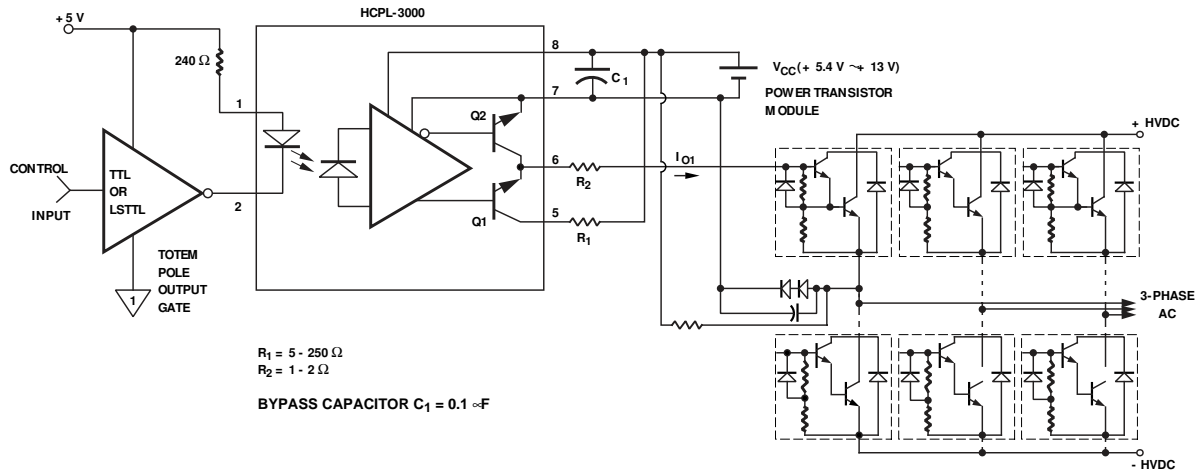

Figure 1. Recommended output transistor protection and typical application circuit.
THE USE OF A 0.1∞F BYPASS CAPACITOR CONNECTED BETWEEN PINS 8 AND 7 IS RECOMMENDED. ALSO, CURRENT LIMITING RESISTORS ARE RECOMMENDED (SEE FIGURE 1, NOTE 2, AND NOTE 7).
large amounts of current. Figure 1 describes a recommended circuit design showing current limiting resistors R_1 and R_2 which are necessary in order to
- R_1 sets the base current (I_{O1} in Figure 1) supplied to the power bipolar device. R_2 limits the peak current seen by Q2 when the device is turning off. For more applications and circuit design information see Application Note "Power Transistor Gate/Base Drive Optocouplers."